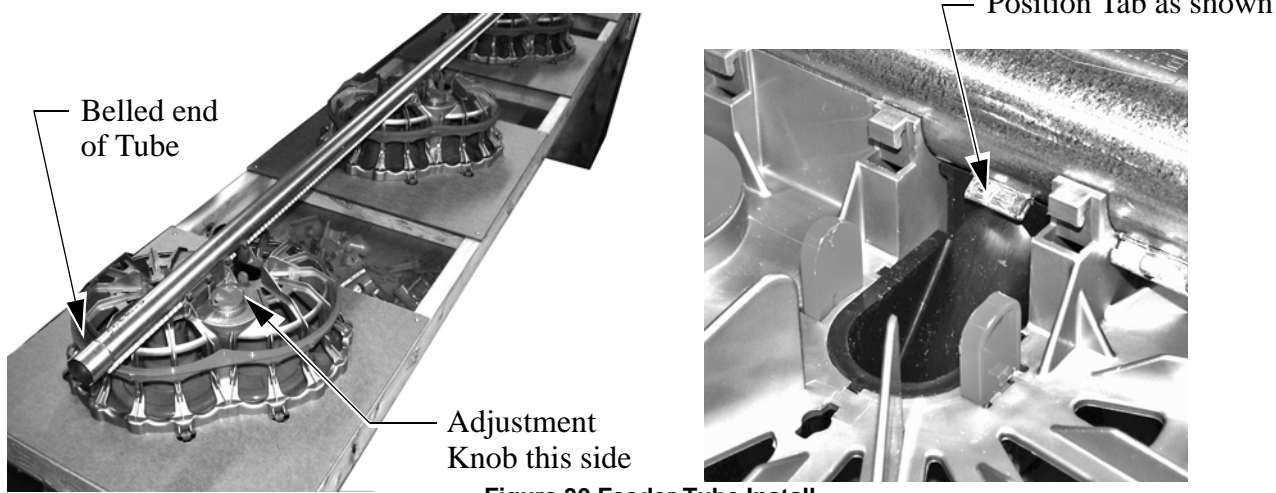

Figure 30. Feeder Tube Install
8. All Pans installed in the correct direction. **See Figure 30.**